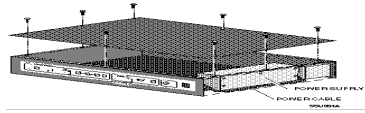

Figure 5. Cable Routing
12. Turn the System Unit over and route the power cable back through the space between the main board and the side panel. Reinstall the power supply as illustrated in Figure 5. The Power Supply must be inserted at an angle, then gently worked into place.